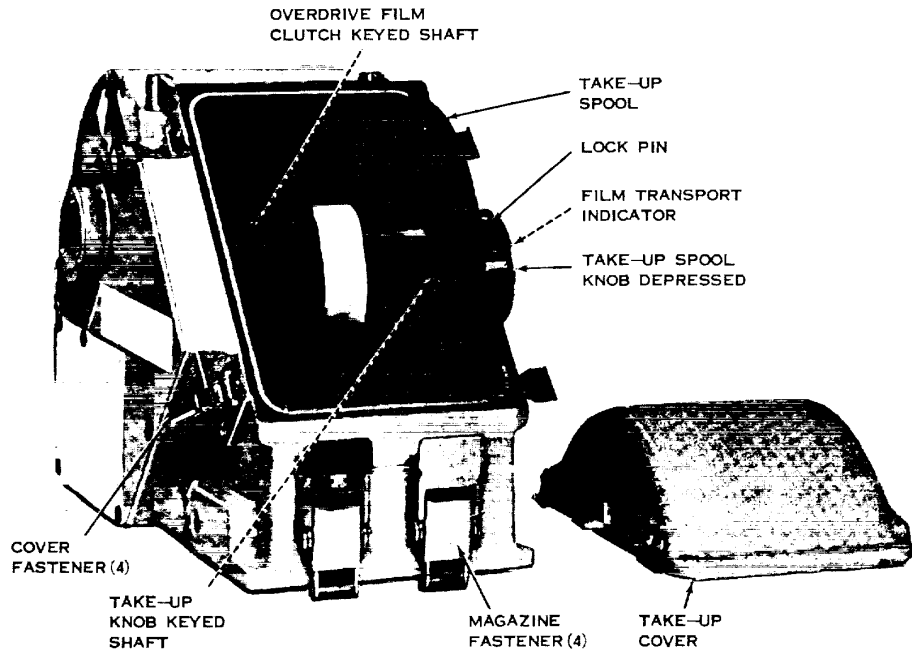

Figure 21. Installing Takeup Spool, Subdued Light Procedures (8).
n. Mount the takeup spool on the keyed shaft (drag clutch side) (fig. 21).
c. Unlatch the four fasteners and remove the takeup cover (fig. 21).